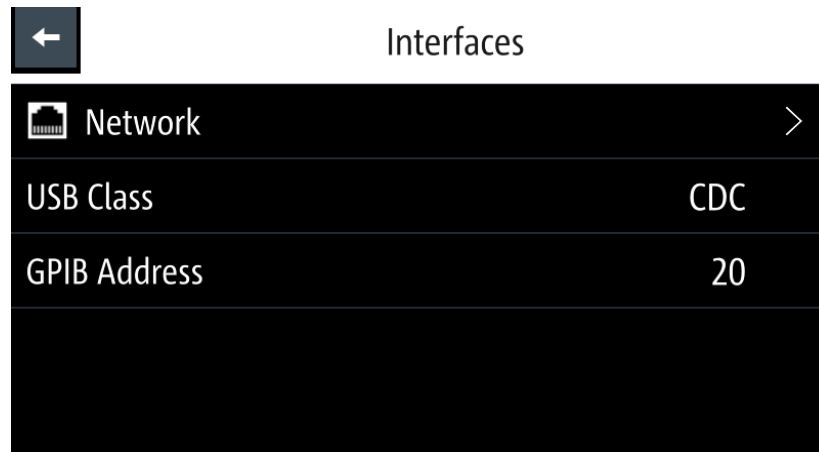

Figure 7-42: Interfaces dialog
1. Select "Network" from the Figure 7-42.